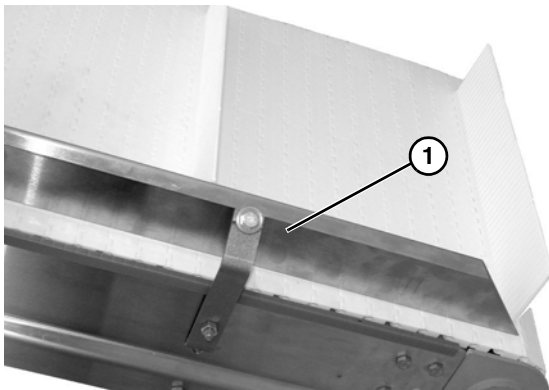

Figure 22
1. Remove guides (Figure 22, item 1) when required.